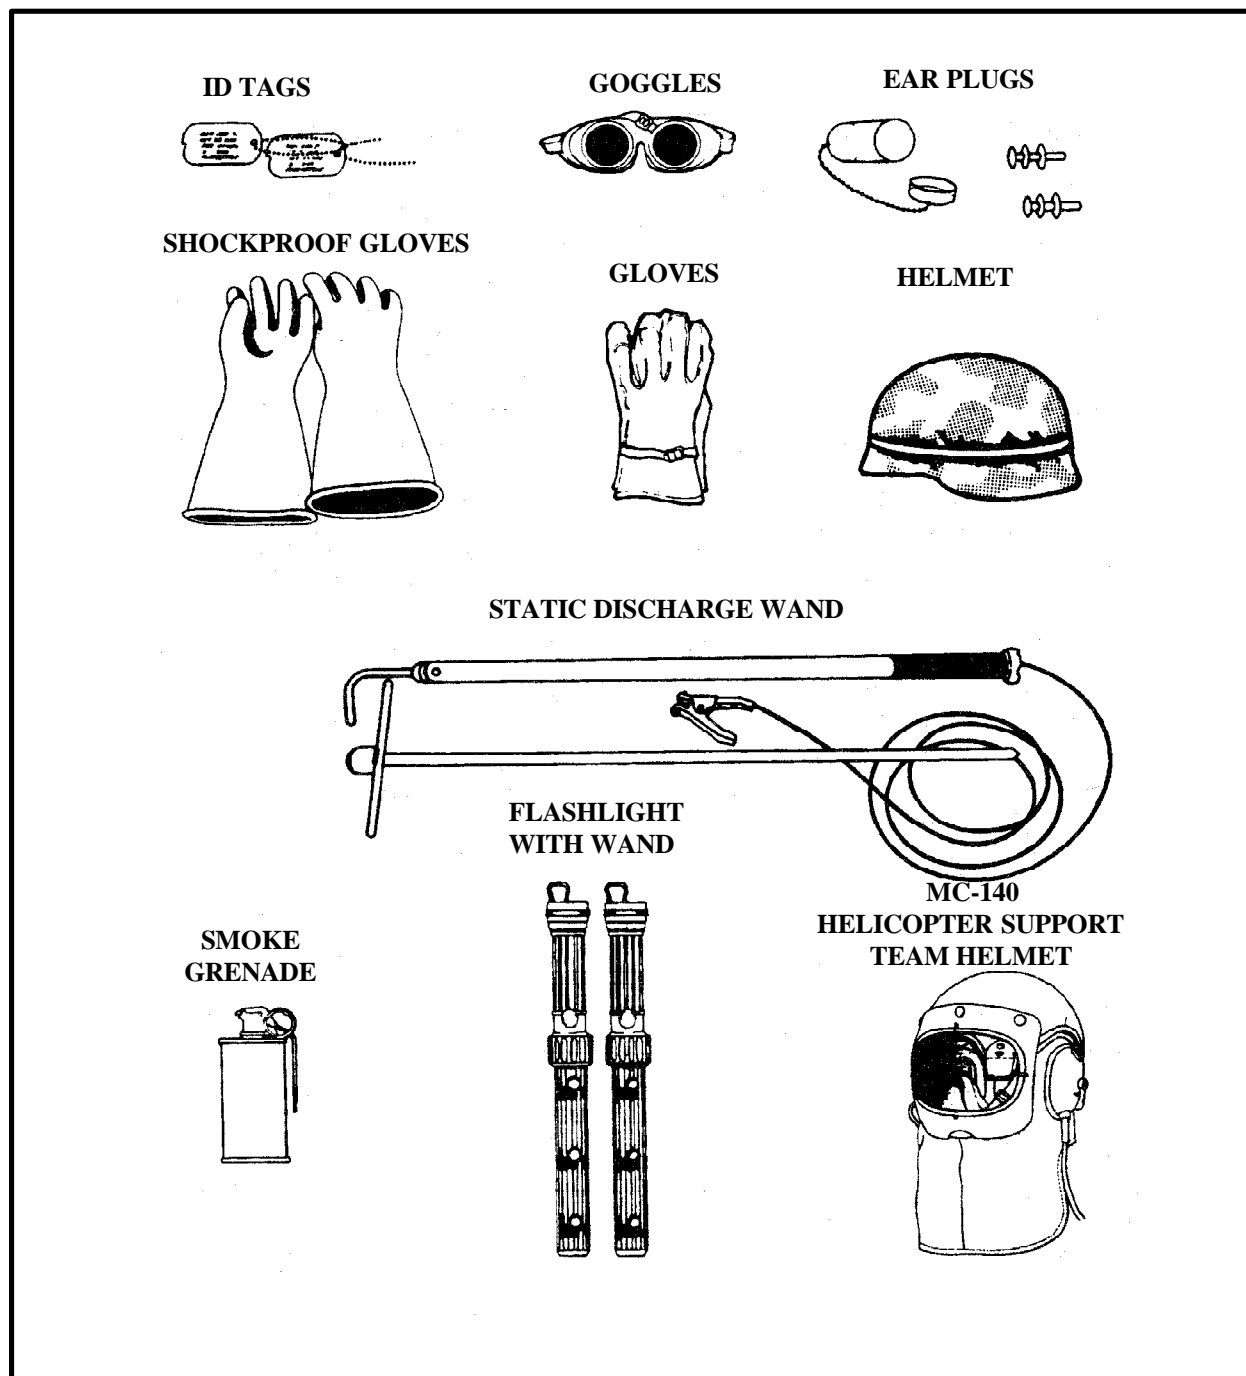

Figure 3-1. Personal Protection Equipment
**f. Other Equipment.** The static discharge wand is used to protect the hookup man from static electric shock. Smoke grenades are used to mark the location of the landing site and/or indicate wind direction. Flashlights with wands are used to give hand-and-arm signals at night. Figure 3-1 shows equipment that is normally needed. The equipment national stock numbers (NSN) are listed in Appendix B.